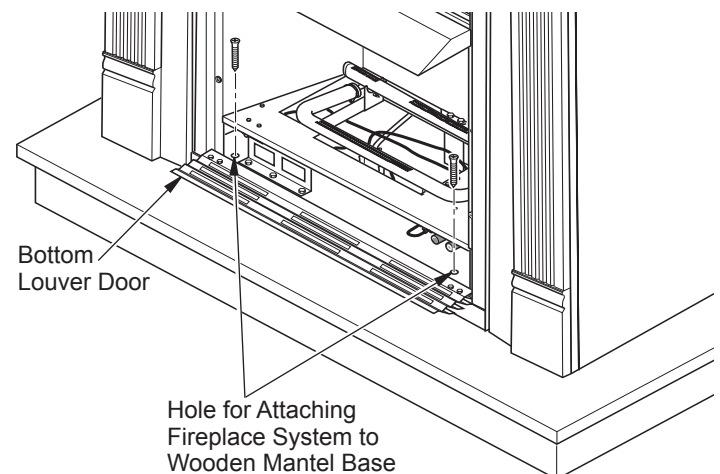

Figure 8 - Attaching Fireplace to Mantel and Mantel Base
5. **Gas fireplace with louver door:** Lower bottom louver door. Use two screws provided in fireplace hardware package and attach fireplace to wooden base (see Figure 8). Close louver door.
4. **Gas fireplace with louver door:** Lower bottom louver door. Use two screws provided in fireplace hardware package and attach fireplace to wooden base (see Figure 8, page 3). Close louver door